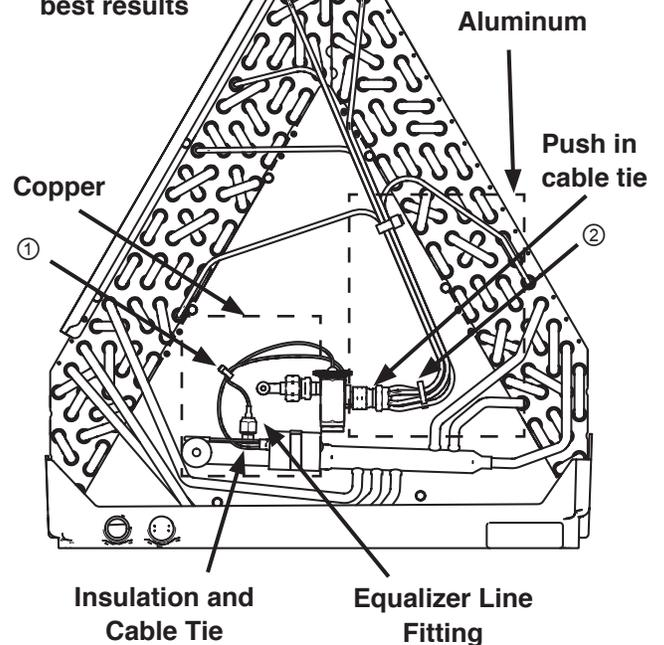

Figure 5
10. The remaining two push-in cable ties (Item 8) are used to replace the original cable ties ① and ② in Figure 5, if cut, to ensure the tubing clearance of .25 Inches is maintained.